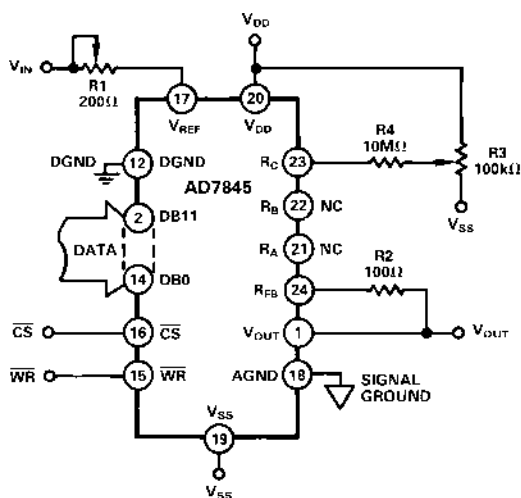

Figure 13. Unipolar Binary Operation
Gain error is a measure of the output error between an ideal DAC and the actual device output with all 1s loaded after offset error has been adjusted out. Gain error is adjustable to zero with an external potentiometer. See Figure 13.
Figure 13 shows the AD7845 connected for unipolar binary operation. When  $V_{IN}$  is an ac signal, the circuit performs 2-quadrant multiplication. The code table for Figure 13 is given in Table I.
## OFFSET AND GAIN ADJUSTMENT FOR FIGURE 13
**Temperature Coefficients:** The gain temperature coefficient of the AD7845 has a maximum value of 5 ppm/°C. This corresponds to worst case gain shift of 2 LSBs over a 100°C temperature range. When trim resistors R1 and R2 in Figure 13 are used to adjust full-scale range, the temperature coefficient of R1 and R2 must be taken into account. The offset temperature coefficient is 5 ppm of FSR/°C maximum. This corresponds to a worst case offset shift of 2 LSBs over a 100°C temperature range.